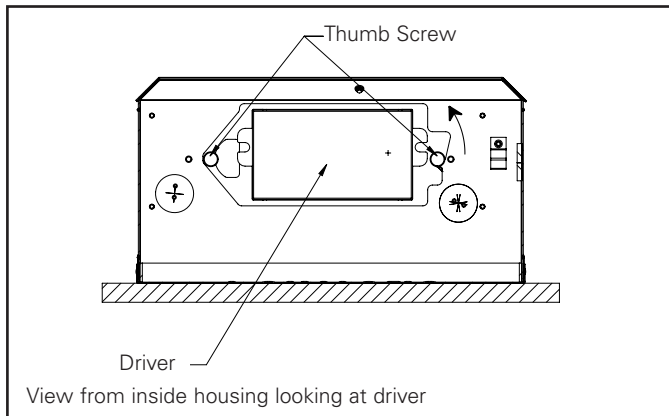

Figure 23.
7. Loosen two driver door mounting thumb screws about 3 turns (see Figure 23).
10. Disconnect driver wiring. Remove two nuts to remove driver from driver door. Attach new driver to driver door in orientation shown (Figure 23).